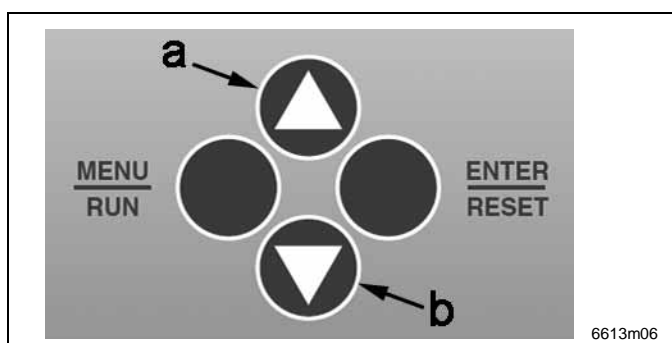

Fig. 38 Operating panel
*As soon as you press the "UP" key (pos. a, Fig. 38) outside of the configuration mode, the actual rest of the expired pause time is shown in the display.*
*The version number setting (0 - 5) is shown in the LMC 1 display and is made using the UP & DOWN keys on the operating panel (see pos. a & b, Fig. 38).*
- Complete your selection (0 - 2) with the ENTER key (Fig. 38).